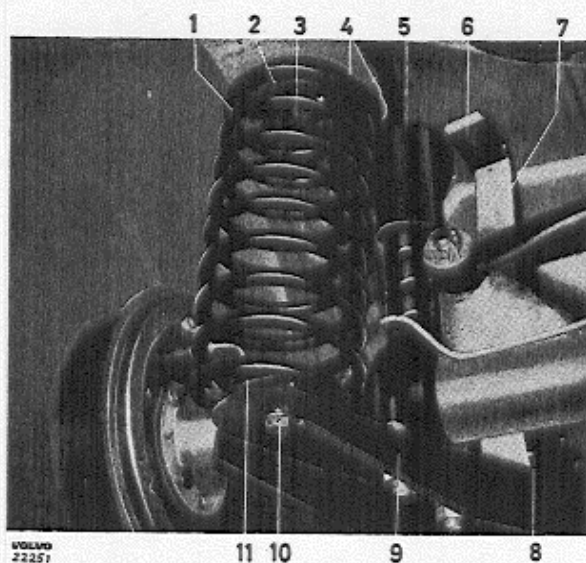

Fig. 5. Rear spring fitted, PV 544
3. Disconnect the shock absorber (5, Fig. 5) from the attachment in the rear axle housing.
4. Disconnect the shock absorber band (7) from its attachment on the axle support arm (9).